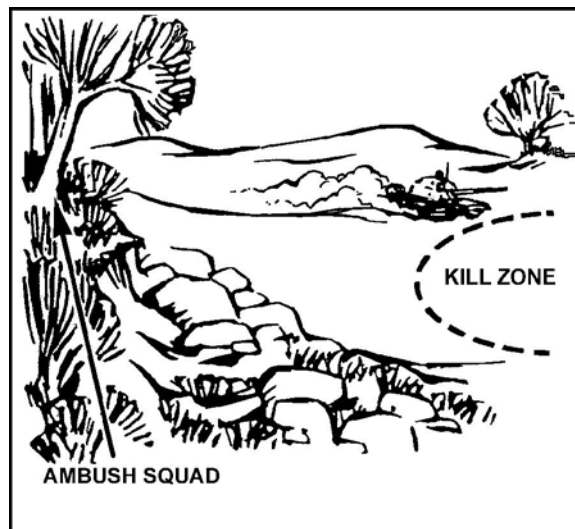

Figure 6. Isolated enemy vehicle.
- f. A target vehicle is isolated and has no other enemy armor over watching it (Figure 6).